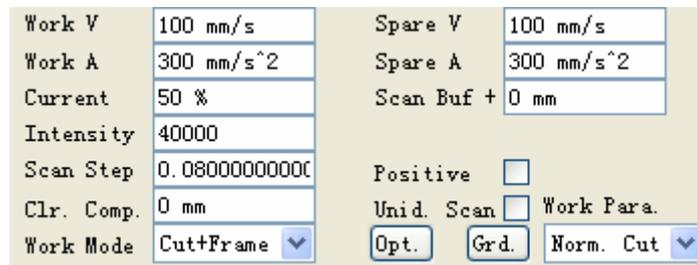

Figure 6-11 Set Parameters 3
6. Set the parameters in the mission manage dialog box. Choose the cutting and cutting the frame in working mode combo box, choose normal cut in the mission's parameters configure combo box, the software will set all the parameters automatically, likes the Figure 6-11 shows: